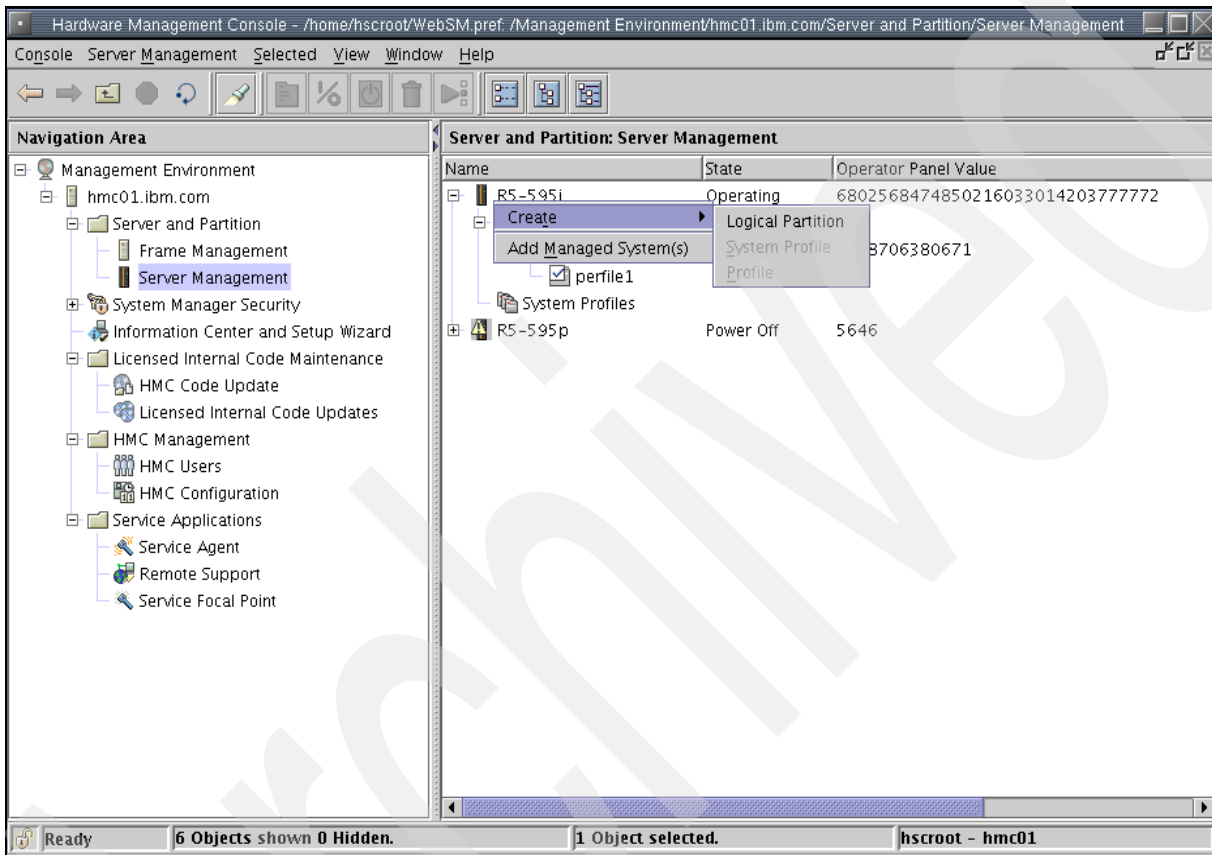

Figure 5-2 Invoking the create partition wizard
- To start the partition creation process, right-click **Partitions**, and from the pop up menu shown in Figure 5-2, select: